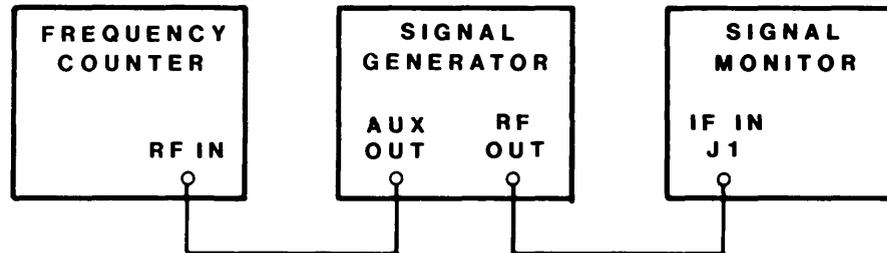

Figure 4-1. Test Setup, Signal Monitor Performance Tests
- (1) Connect the equipment as shown in **Figure 4-1**.